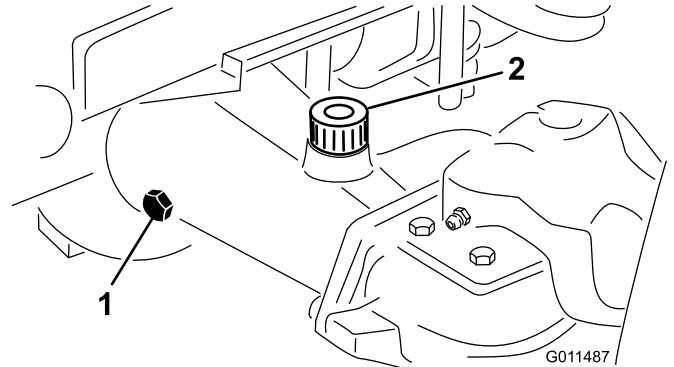

Figure 15
2. Remove a check plug from one end of the axle (Figure 15) and make sure that the lubricant is up to the bottom of the hole. If the level is low, remove the fill plug (Figure 15) and add enough lubricant to bring the level up to the bottom of the check plug holes.